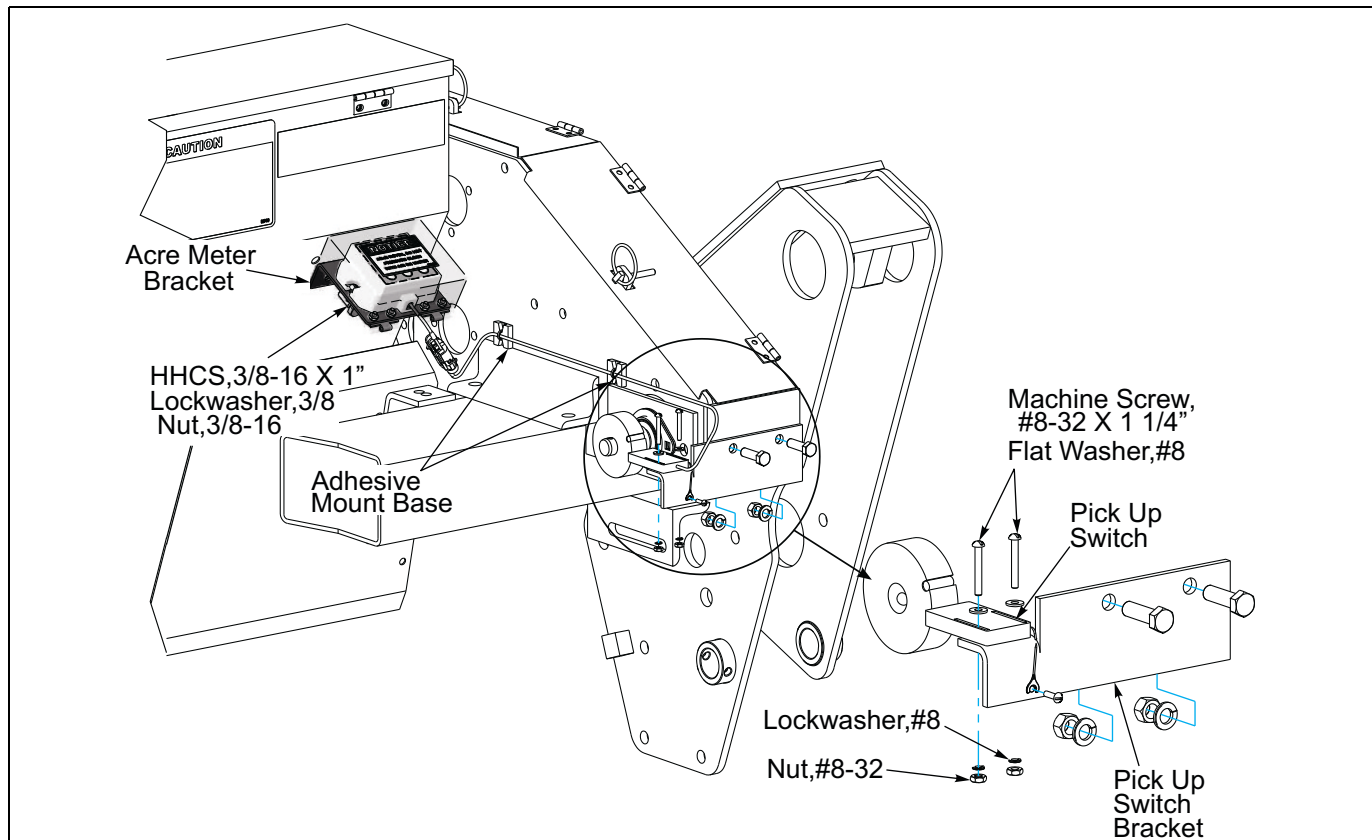

Figure 2-13: Electronic Acre Meter (2 of 3)
2. Attach the pick up switch to the top of the 5K714 bracket with two 8 -32 x 1 1/4 machine screws, flat washers, lock washers and nuts. Do not tighten screws at this time. **See Figure 2-13.**